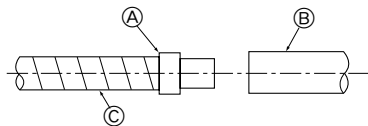

Fig. 5-1
5.1. Drainage piping work (Fig. 5-1)
- (A) Drain connection socket
- (B) On site drain pipe (VP-20)
- (C) Indoor unit's drain hose